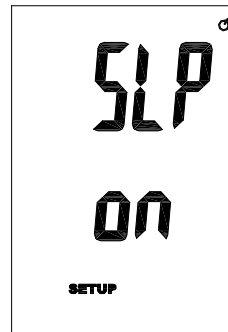

Fig. 6
1. While in Setup mode, press **▲/T1-T2** or **Hold/▼** button to scroll to the "SLP" option screen (Fig. 6).